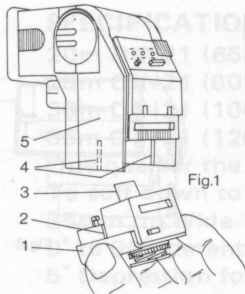

Fig.1
2. Hold the flash gun, rear side uppermost in one hand and the module, also rear side uppermost but slightly tilted forward, in the other hand, See Figure 1.